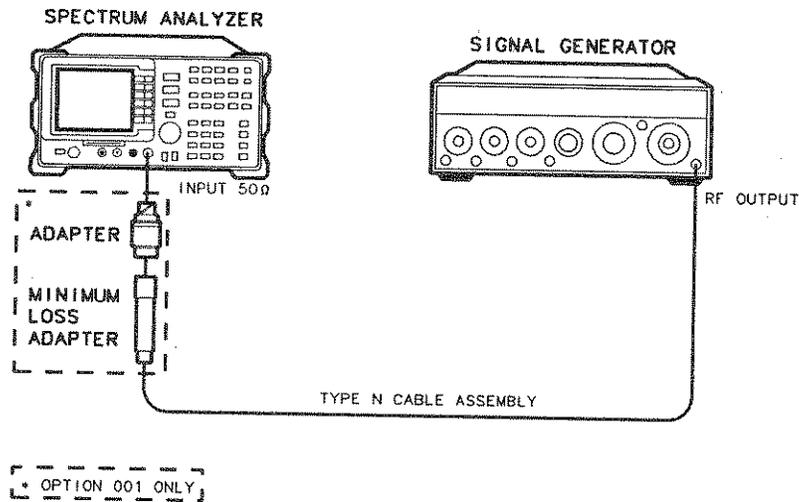

Figure 3-3. Noise Sidebands Test Setup
2. Connect the equipment as shown in Figure 3-3.